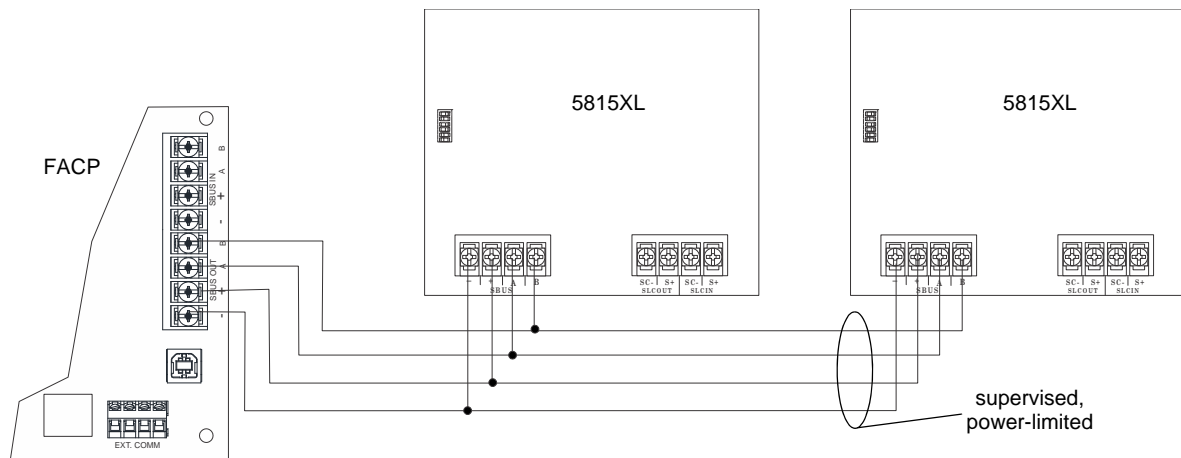

Figure 4.29 5815XL Connection to FACP
- Connect the 5815XL to the control panel. (See Figure 4.29.)
Connect the 5815XL to the control panel as shown in Figure 4.29. After the 5815XL is connected to the panel, it must be added to the system. This programming steps are described in Section 8.2.2.